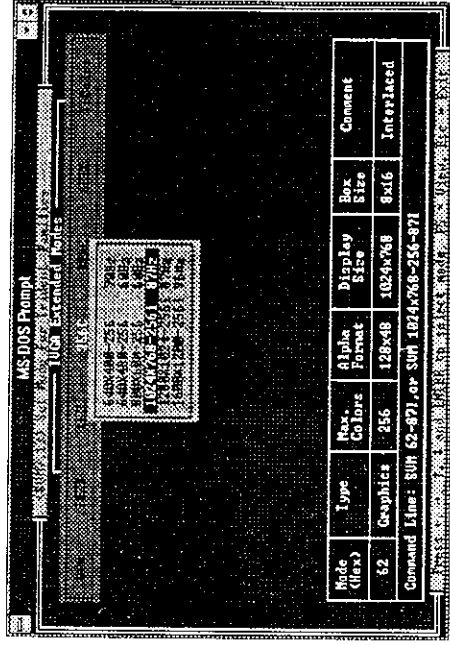

Figure 3-27.
2. TYPE SVM to call up the menu (see Figure 3-27).
The program provides all the different resolutions supported by the chip under each color depth. These resolutions are traversed by the up or down arrow keys. The graphics adapter can be tested for each resolution/ mode by first high-lighting the selection (e.g. 1024x768-256 colors as shown in Figure 3-27) by use of the arrow keys, then pressing the F5 key.